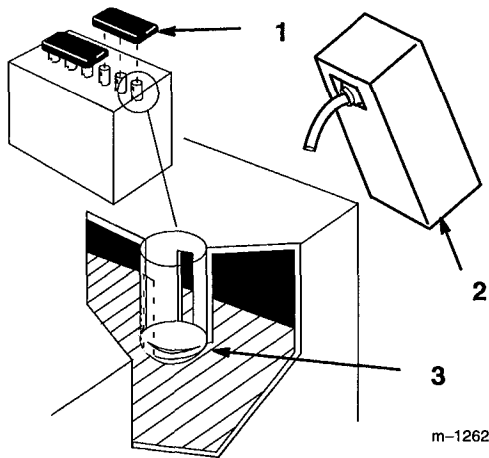

Figure 3
2. Remove filler caps from the battery. Slowly pour electrolyte into each cell until the electrolyte level is up to the lower part of the tube (Fig. 3).